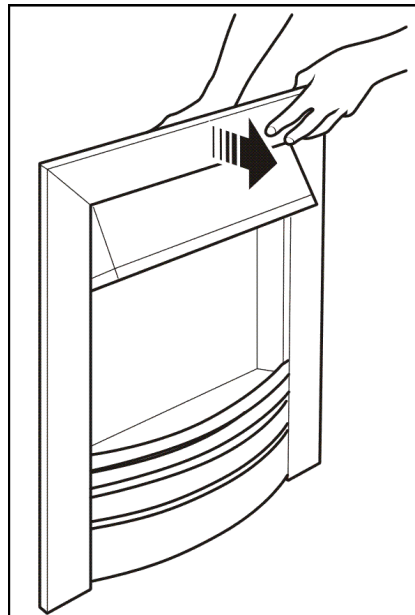

Figure 3. Removal of Adage, Fusion and Prelude fascia (Fascia may differ from that shown).
1. Very strong magnets attach the fascia to the heater. Support the rear of the heater and gently pull the fascia forward (See figure 3).